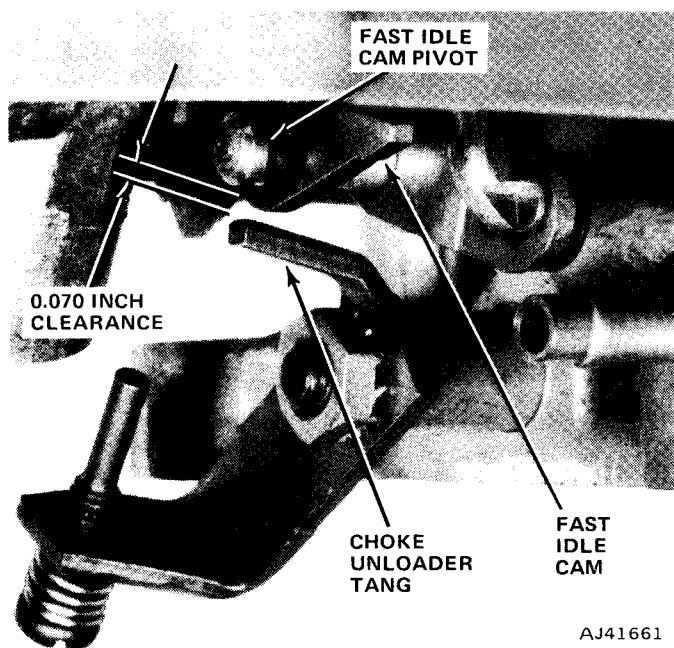

Fig. 4-56 Unloader-to-Fast-Idle-Cam Clearance
(4) After making the adjustment, open the throttle until the unloader tang is directly below the fast idle cam pivot. **There must be exactly 0.070-inch clearance between the unloader tang and the edge of the fast idle cam (fig. 4-56).**
(5) Operate the throttle and check unloader tang to make sure it does not bind, contact, or stick on any part of carburetor casting or linkage. After carburetor installation, check for full throttle opening when the throttle is operated from inside the vehicle. If full throttle opening is not obtainable, it may be necessary to remove excess padding under the floor mat or reposition the throttle cable bracket located on the engine.